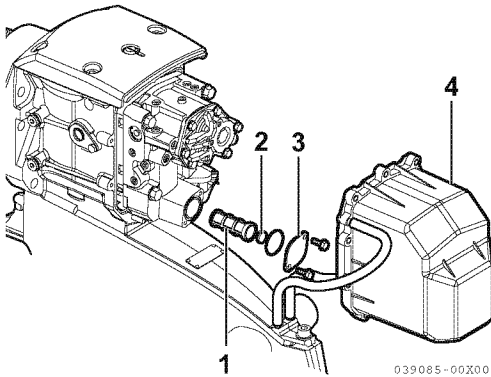

Figure 13
8. Remove the case plate cover (4, **Figure 13**), filter cover (3, **Figure 13**), magnet (2, **Figure 13**) and filter (1, **Figure 13**). Clean or replace the filter and magnet.